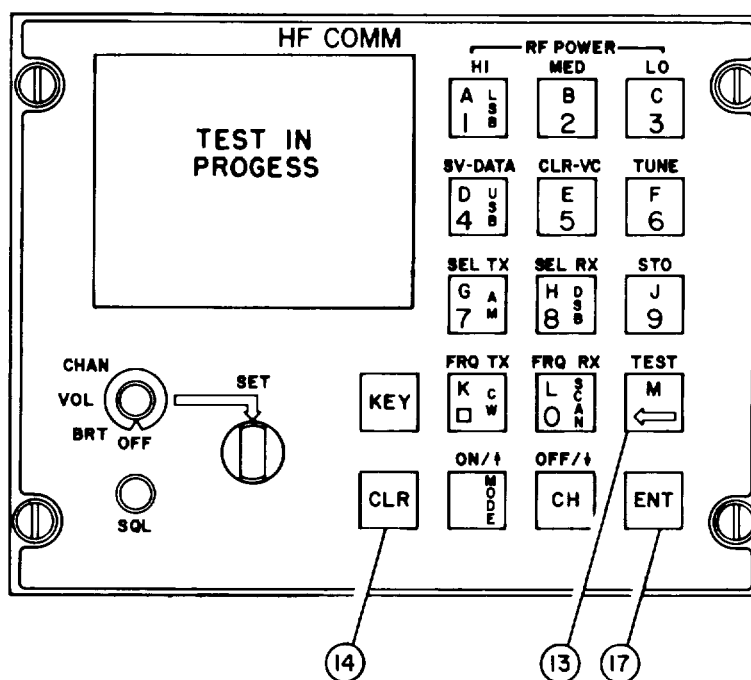

Figure 2-32. C-11245/U Test Mode Function, Controls
*j. Test Mode/Display.* Refer to figure 2-32. Test mode/display is used for run-ning the initiated BIT sequence. Operation procedures for the modes are given in the following information. For running BIT with the ANNRC-86(V)3 configuration it will be necessary to disconnect the cable from the RF output (J118) and connect the BIT cable to the RF output.
- (1) **Test Mode.** Press TEST pushbutton (13), followed by ENT pushbutton (17). The CRT screen displays a checkerboard pattern for a few seconds as shown in figure 2-31. Then it shows an inverse checkerboard pattern to test the individual character spaces on the CRT. When this part of the test is completed, the words TEST IN PROGRESS (figure 2-32) are displayed on the CRT. To stop BIT before testing is completed, any pushbutton may be pressed. For consistency, it is recommended that the CLR pushbutton (14) be used to stop the testing.